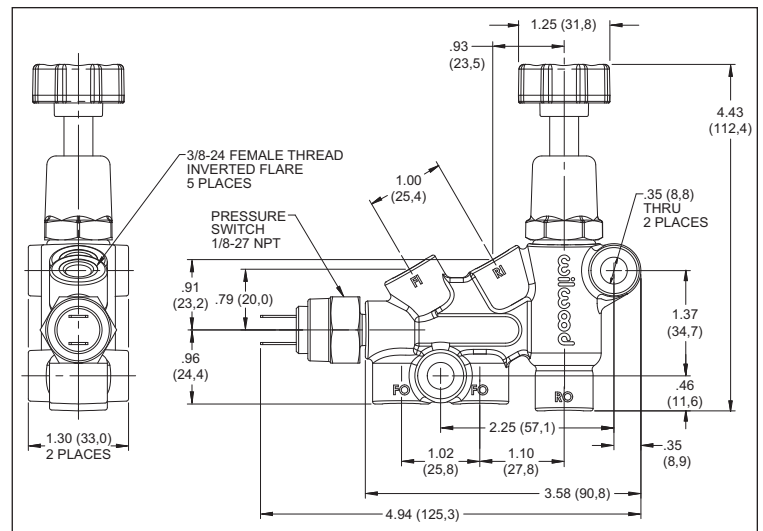

Figure 1. Combination Proportioning Valve, Knob Style, Mounting Dimensions
1. The line from the master cylinder for the front brakes connects to the port marked "FI", (front in), on the top of the combination valve, refer to Figure 1.